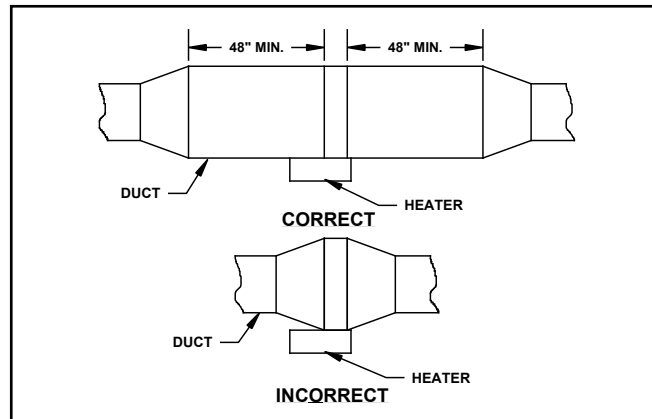

FIGURE 3.1.3 PLACEMENT: TRANSITION REQUIREMENTS
7. Always locate the heater at least 48" from any canvas duct connector or transition section for change in duct size. If connecting to round duct, install heater in a rectangular duct section. Use round-to-rectangular pyramidal transitions to connect round duct to rectangular duct. Always locate the heater at least 48" from any transition section for change in duct size. Follow installation guidelines given in manual and in accordance with SMACNA guidelines (see Figure 3.1.3)